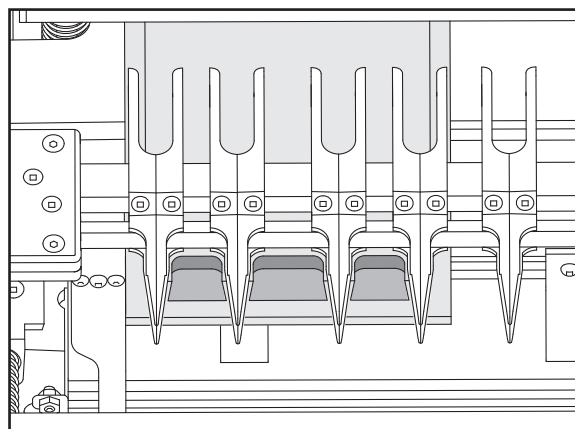

Fig. G8
4. Make the cut using instructions included in the variable-spaced half-blind joint section. Final cut should look like Fig. G8.